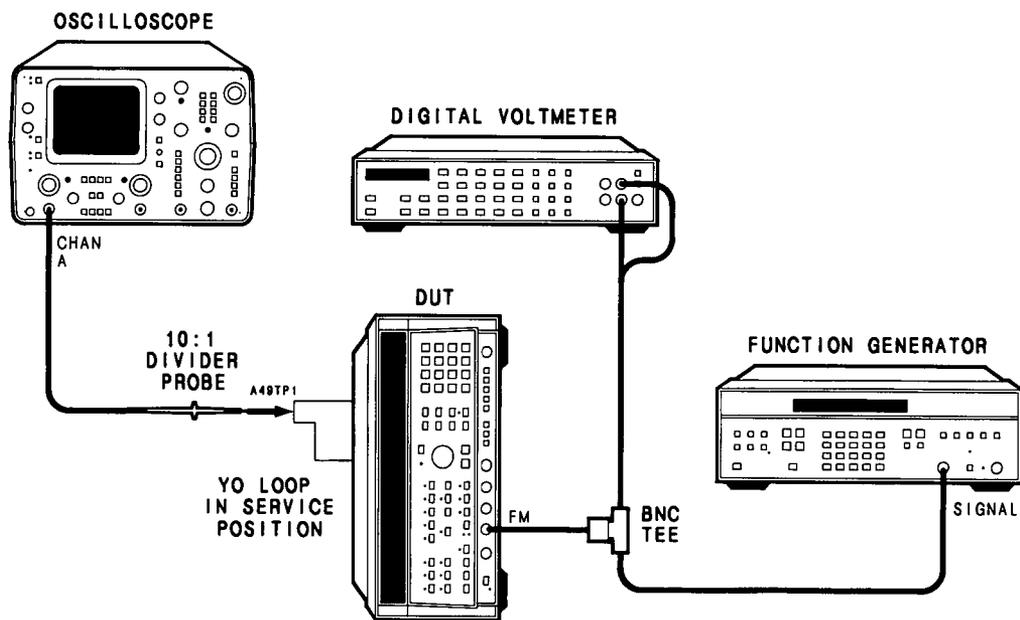

Figure 5-26. FM Accuracy and Overmod Adjustment Setup
1. Connect the equipment as shown in Figure 5-26, FM Accuracy and Overmod Adjustment Setup. The BNC Tee should be connected directly to the DUT's FM input BNC. Switch the DUT to ON and allow the equipment to warm up for 30 minutes.